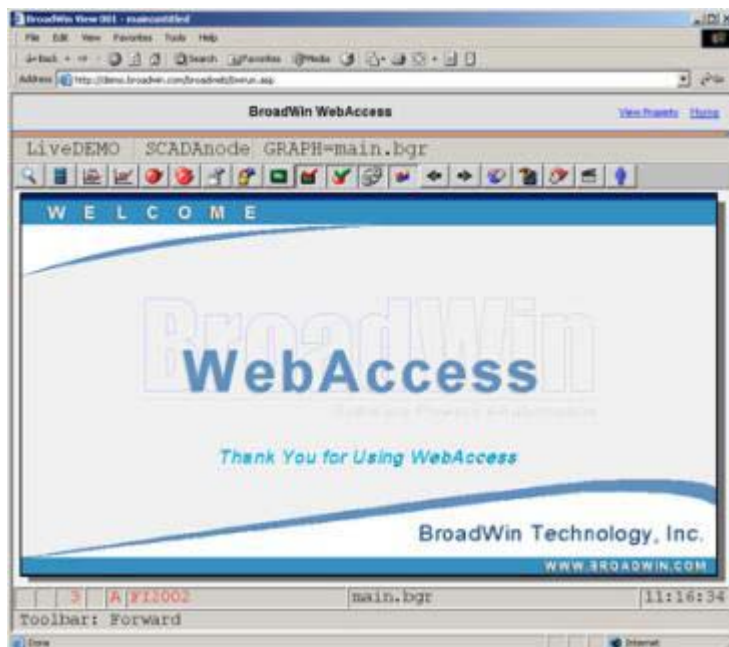

Figure 7.8 – default Main graphic display
8. The MAIN graphic display for your system appears. The default MAIN graphic supplied with WebAccess is shown below (Figure 7.8). Yours will probably look different,
- Select the Alarm Summary button  from the Standard Toolbar (Figure 7.8)